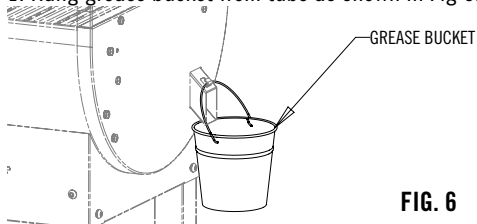

FIG. 6
1. Hang grease bucket from tube as shown in Fig 6.